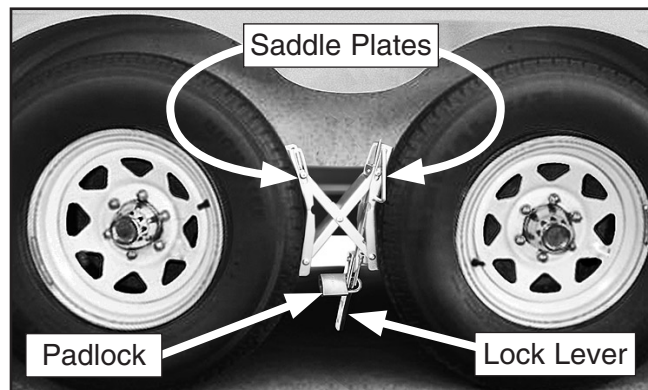
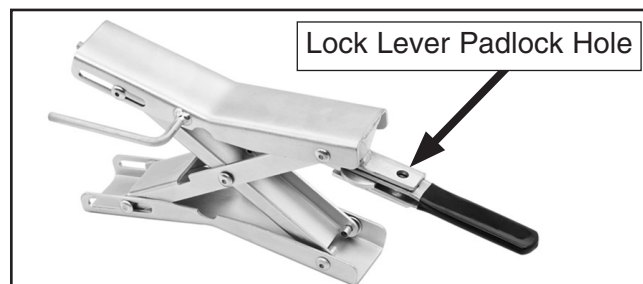

Figure 3. Chock/lock installed.
Figure 4. Chock/lock in the expanded position.
3. Expand the chock/lock between the tires, so both saddle plates press against the tire tread, and the lock lever is pointing down, as shown in **Figure 3**.
6. On each tandem axle at the tire centerline, position a chock/lock between the tires, and move the lock lever so it is pointing down as shown in **Figure 3**.
7. Install a padlock (not included) through the hole in the lock lever (see **Figure 4**) as shown in **Figure 3**.